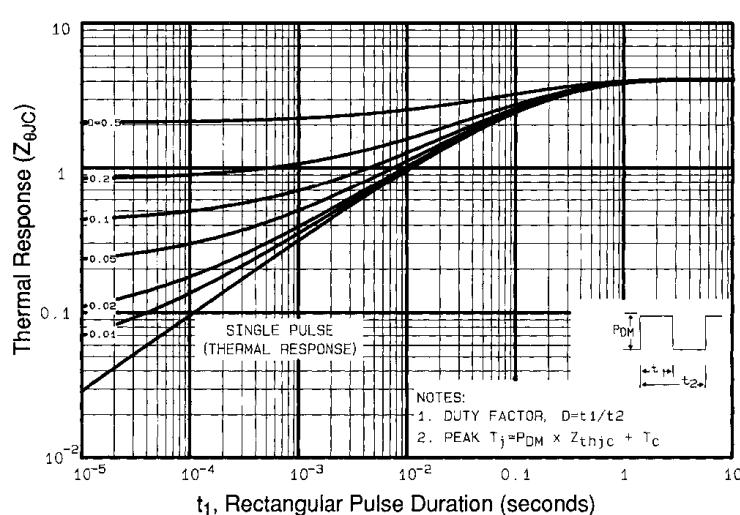

Fig 11. Maximum Effective Transient Thermal Impedance, Junction-to-Case
① Repetitive rating; pulse width limited by max. junction temperature (See Figure 11)
③ $I_{\text{SD}} \leq 4.4\text{A}$, $di/dt \leq 90\text{A}/\mu\text{s}$, $V_{\text{DD}} \leq V_{(\text{BR})\text{DSS}}$, $T_J \leq 150^\circ\text{C}$ ⑤ $t = 60\text{s}$, $f = 60\text{Hz}$ ② $V_{\text{DD}} = 50\text{V}$, starting $T_J = 25^\circ\text{C}$, $L = 13\text{mH}$